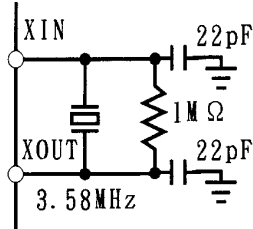

Fig. 3
- Crystal resonator , resistor and capacitors should be connected as shown Fig.3 for on-chip oscillator operation.